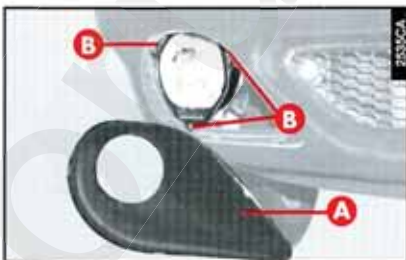

fig. 17
- Remove the frame (A-fig. 17).
- Withdraw the lamp, slackening the fastening screws (B-fig. 17).